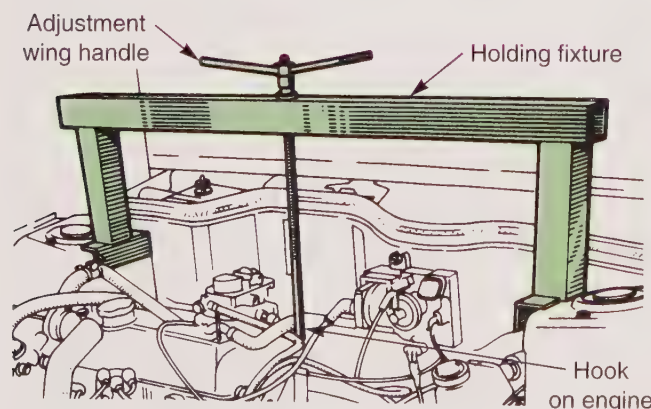

Figure 11-3. This engine holding fixture can be used to remove engine weight from the engine and transaxle mounts. (Chrysler)
2. While under the hood, remove the upper transaxle case-to-engine bolts, clutch and shift linkages, electrical connectors, and ground straps. In many cases, it will be necessary to install an engine holding fixture to remove the engine weight from the lower engine and transaxle mounts. A typical engine holding fixture is shown in **Figure 11-3**.